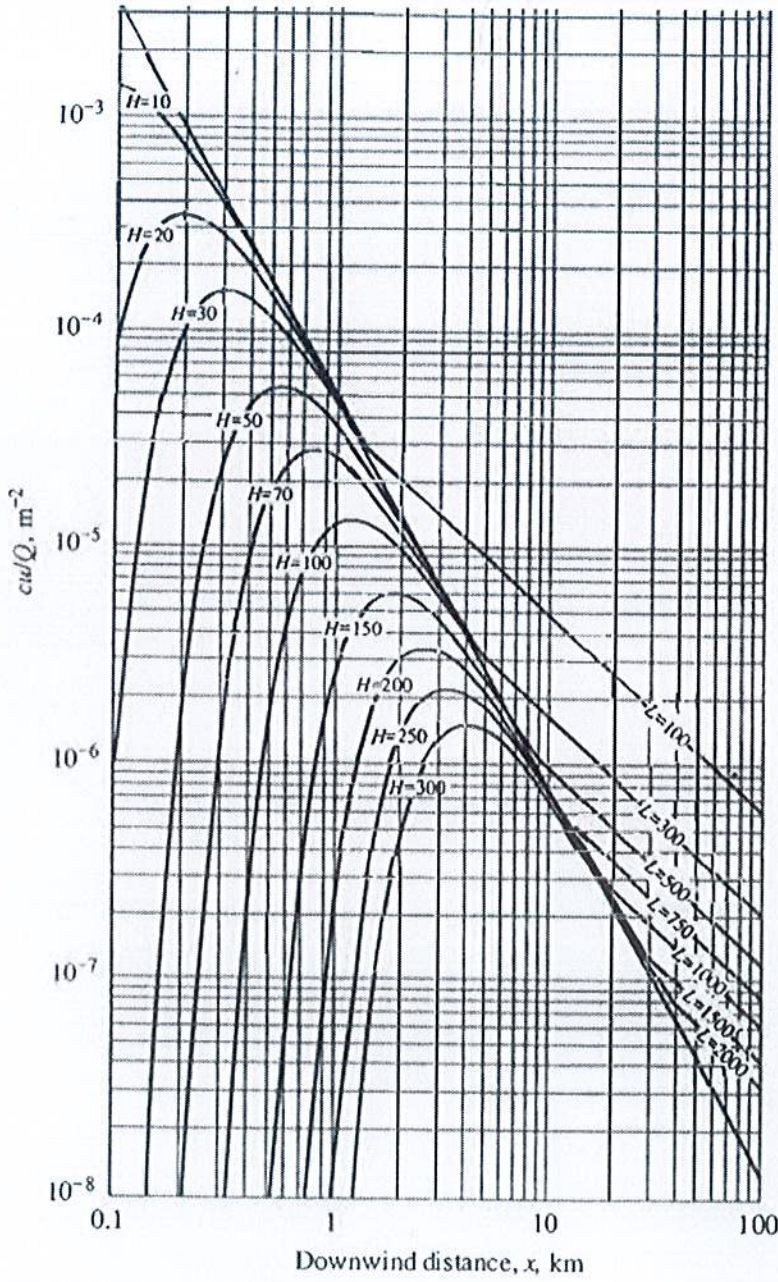

FIGURE 6.9
(c) A plant emits 100 g/s of SO₂ from a stack that has an effective stack height H = 100 m. The wind is blowing at a speed of 4 m/s, and the stability category is C. Estimate the ground-level concentrations directly below the centerline of the plume at distance 2, 5, and 10 km downwind. Comment on the result. Use Figure 6.9. (10)